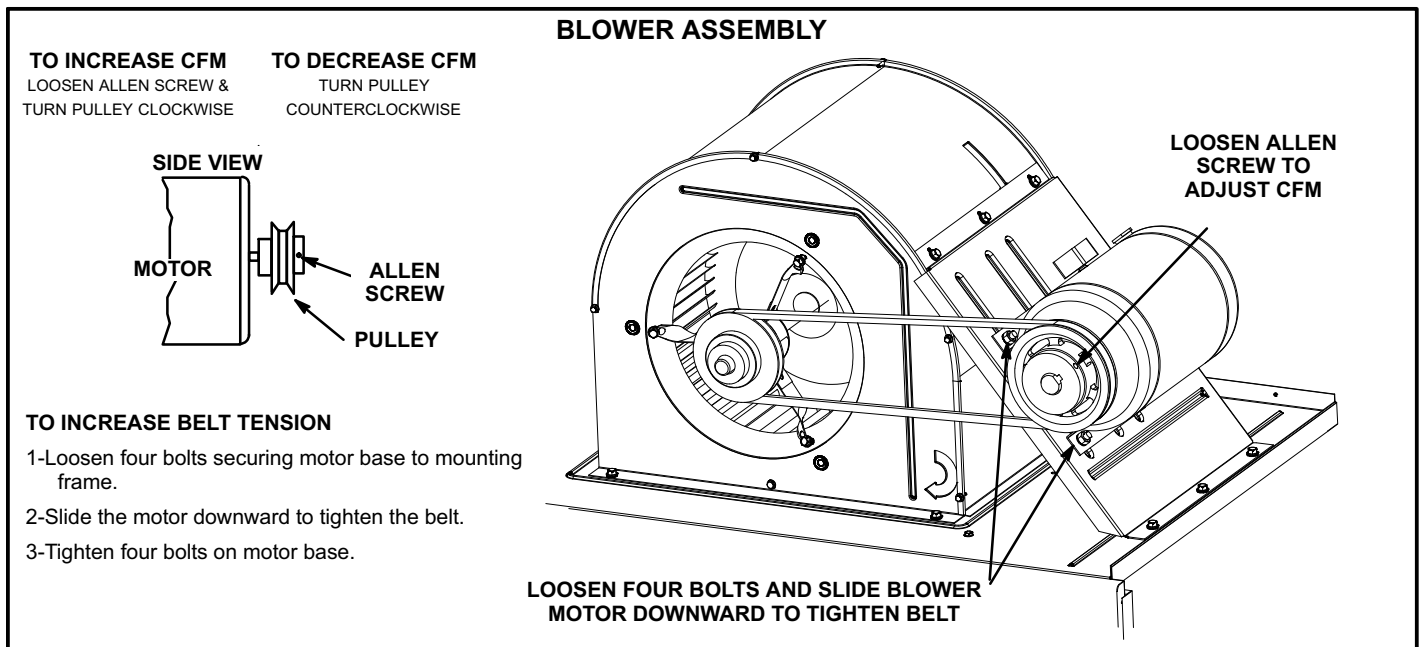

FIGURE 10
- 5- The blower RPM can be adjusted at the motor pulley. Loosen Allen screw and turn adjustable pulley clockwise to increase CFM. Turn counterclockwise to decrease CFM. See figure 10. Do not exceed minimum and maximum number of pulley turns as shown in table 4.
- 1- Loosen four bolts securing motor base to mounting frame. See figure 10.